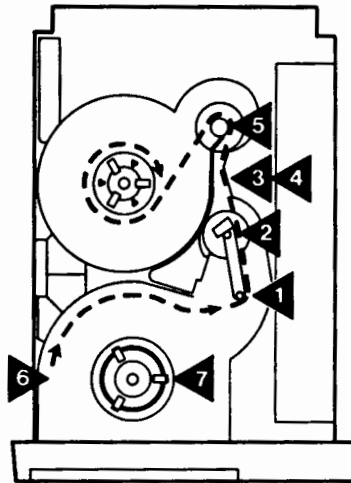

Figure 2-1. Cleaning Points
- c) While applying gentle pressure in the direction of tape path, clean the following surfaces. Give attention to the inner edges of rollers and guides. (Refer to Figure 2-1 for locations).
- (1)-Buffer Arm moveable roller (outboard end of the arm)
- (2)-Buffer Arm fixed roller (at the base of the arm)